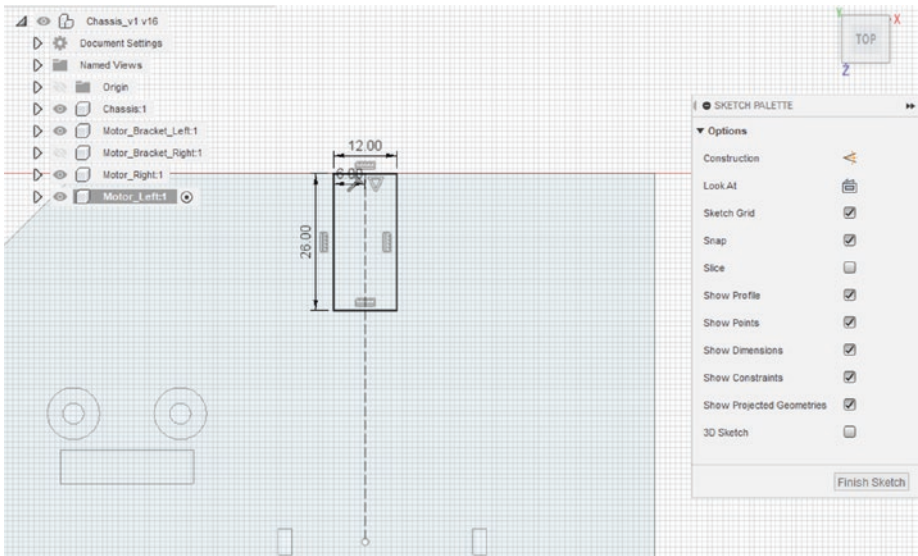

Figure 6-62. Create the rectangle for the left motor
23. Make the same drawing on the other side of the chassis. Use the mirror tool, or you can just draw it out again. See Figure 6-62.